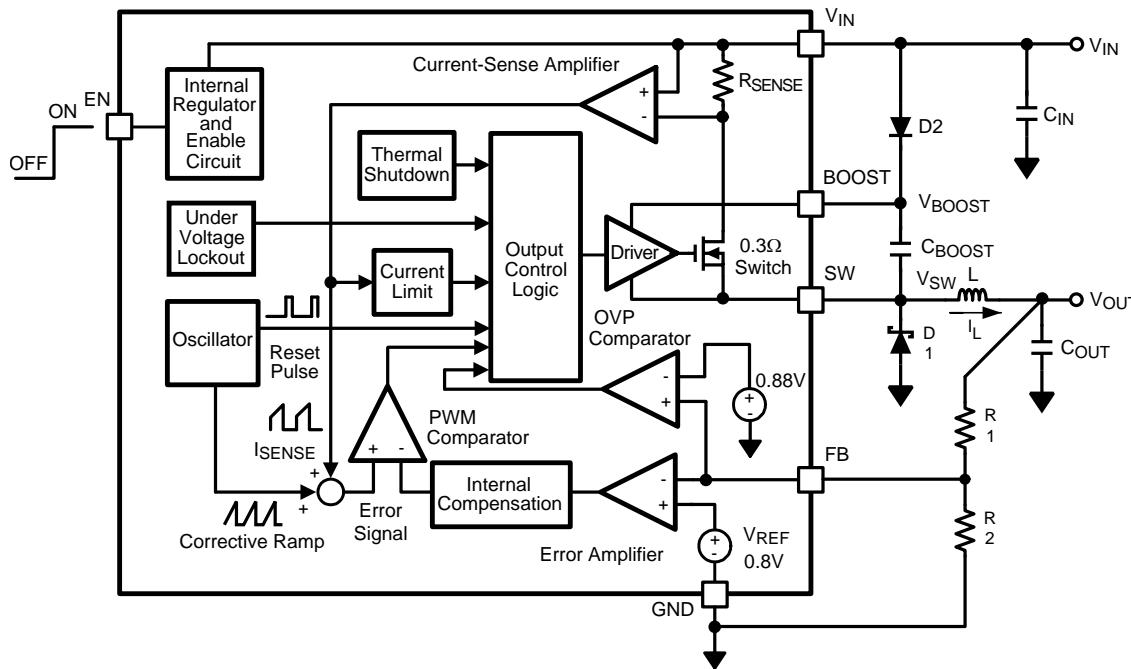

Figure 20.
The following operating description of the LMR12010 will refer to the Simplified Block Diagram (Figure 20) and to the waveforms in Figure 21. The LMR12010 supplies a regulated output voltage by switching the internal NMOS control switch at constant frequency and variable duty cycle. A switching cycle begins at the falling edge of the reset pulse generated by the internal oscillator. When this pulse goes low, the output control logic turns on the internal NMOS control switch. During this on-time, the SW pin voltage (V_{SW}) swings up to approximately V_{IN} , and the inductor current (I_L) increases with a linear slope. I_L is measured by the current-sense amplifier, which generates an output proportional to the switch current. The sense signal is summed with the regulator's corrective ramp and compared to the error amplifier's output, which is proportional to the difference between the feedback voltage and V_{REF} . When the PWM comparator output goes high, the output switch turns off until the next switching cycle begins. During the switch off-time, inductor current discharges through Schottky diode D1, which forces the SW pin to swing below ground by the forward voltage (V_D) of the catch diode. The regulator loop adjusts the duty cycle (D) to maintain a constant output voltage.
In the Simplified Block Diagram of Figure 20, capacitor C_{BOOST} and diode D2 supply the gate-drive current for the NMOS switch. Capacitor C_{BOOST} is charged via diode D2 by V_{IN} . During a normal switching cycle, when the internal NMOS control switch is off (T_{OFF}) (refer to Figure 21), V_{BOOST} equals V_{IN} minus the forward voltage of D2 (V_{FD2}), during which the current in the inductor (L) forward biases the Schottky diode D1 (V_{FD1}). Therefore the voltage stored across C_{BOOST} is